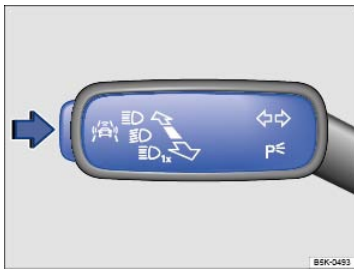

Fig. 21 On the turn signal and high beam lever: Driver assistance systems button.
- Press the button ⇒ Fig. 21 (arrow) to open the **Assist systems** menu.